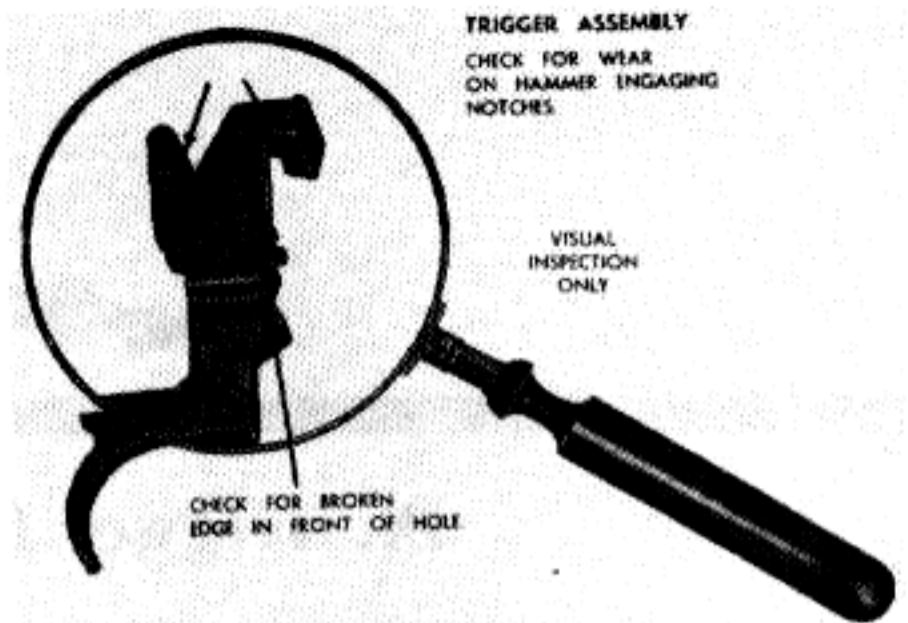

Fig. 149. Points to inspect on trigger assembly.
72. Trigger assembly: inspect the trigger assembly for wear on hammer-engaging notches as indicated in Fig. 149. Also check for broken edge in front of the hole, as indicated.